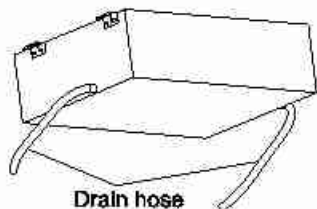

Fig.17
6. There is a drain port on both the left and right sides. Select the drain port to match the local conditions. (Fig. 17)